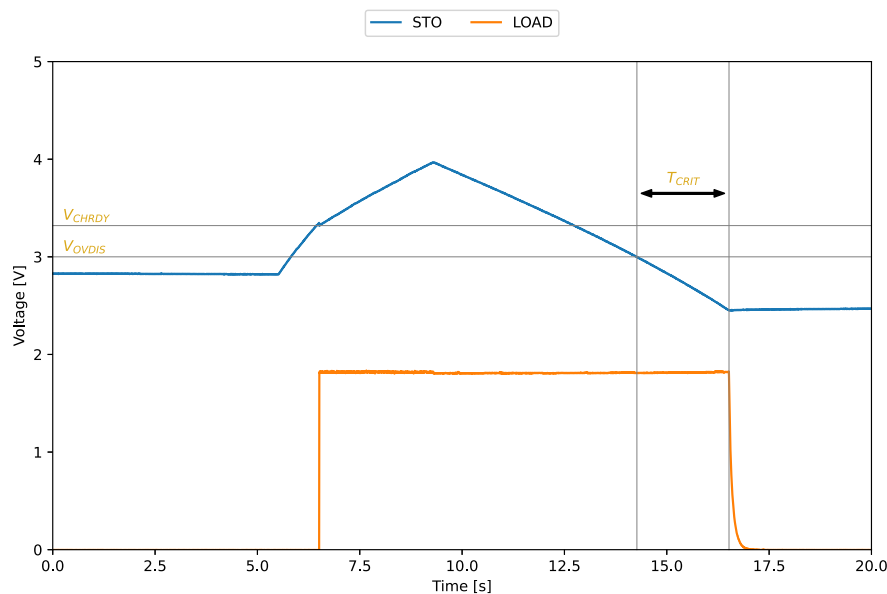

Figure 4: LOAD output behavior
- Disconnect the power supply or SMU from **SRC** (done at about 9 s on Figure 4).
Please note that, in a real application, the storage element would be a battery or a supercapacitor, with much higher stored energy, so that V_{STO} would not drop as low as on Figure 4 during T_{CRIT} .